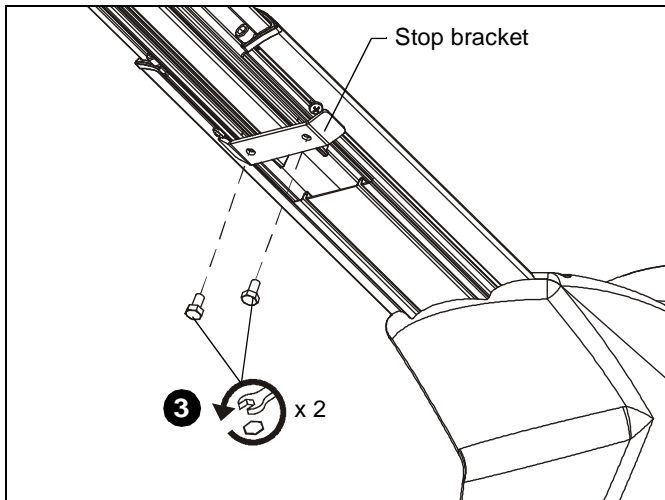

Figure 29
- Remove two bolts holding stop bracket in place on underside of short throw projector mount. (See Figure 29)